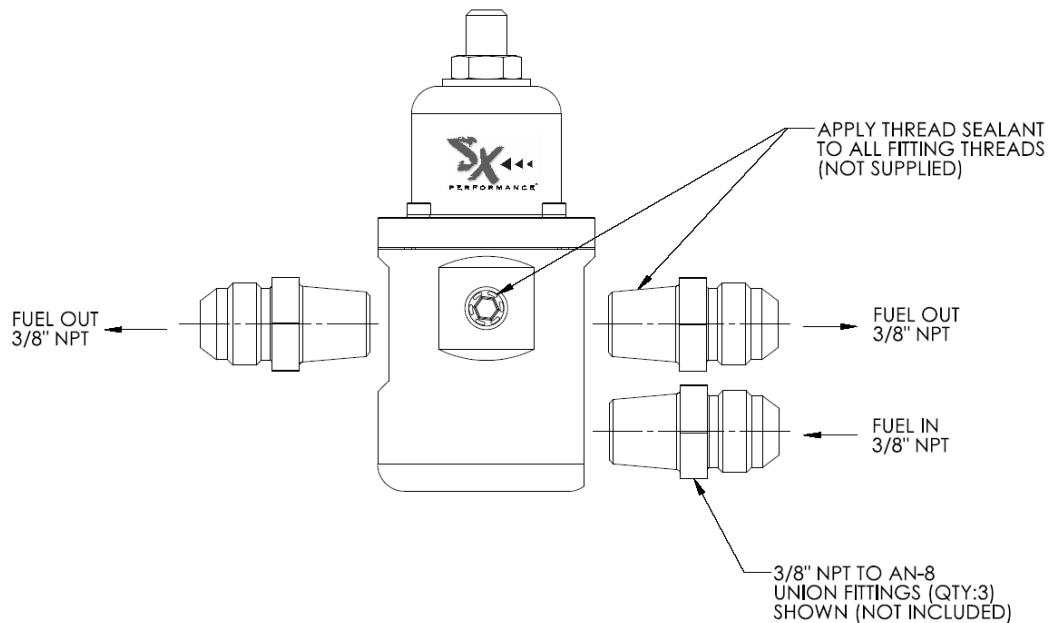

Figure 2 – SX Performance™ Model 15412 Fuel Pressure Regulator Installation
5. Install the fittings as shown in Figure 2. Use thread sealer (not supplied) on the fitting threads. An 3/8 NPT plug can be used to plug any unused outlet port.